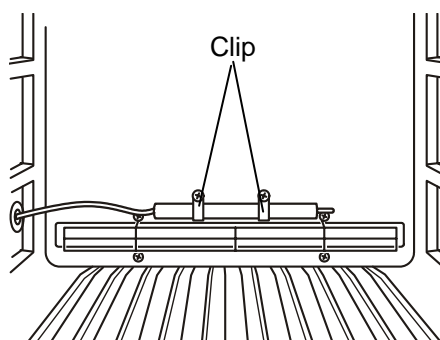

Fig. 4
4. Fix the recorder sensor to the attachment hole on the back side of the refrigerator by using the large clips provided as an accessory. (Fig. 4)